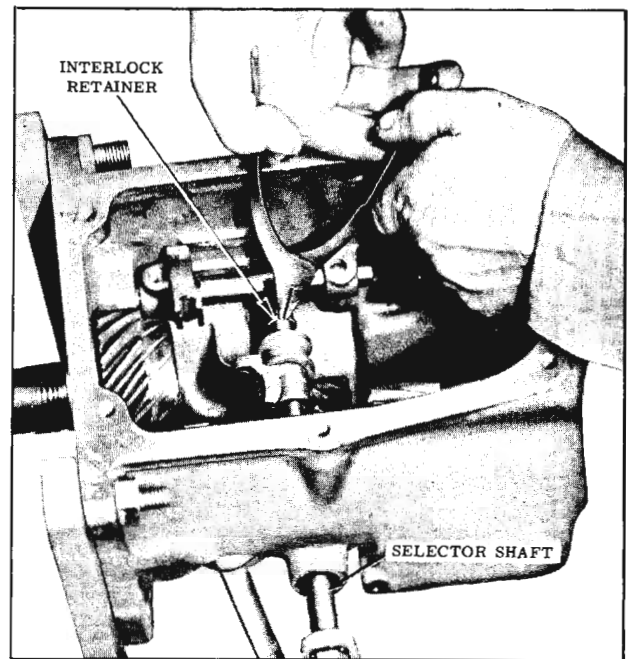

Fig. 11-14 Removing Interlock Retainer
13. Pull selector shaft away from the second and third speed shifter shaft and remove the interlock retainer. (Fig. 11-14)